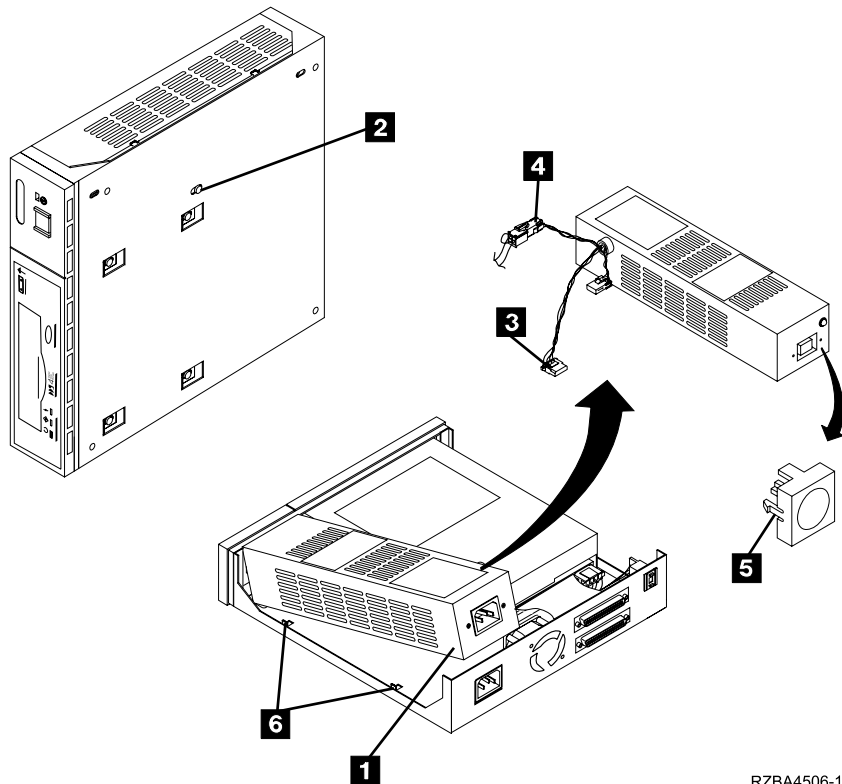

Figure 12. Removing and Replacing the Power Supply
2. Tilt the 7206 Tape Drive on its side. Support the power supply (**1** in Figure 12) while removing the power supply mounting screw **2** from the bottom.
- Align the power supply inside the two tabs (**6** in Figure 12 on page 32) on the base of the chassis.